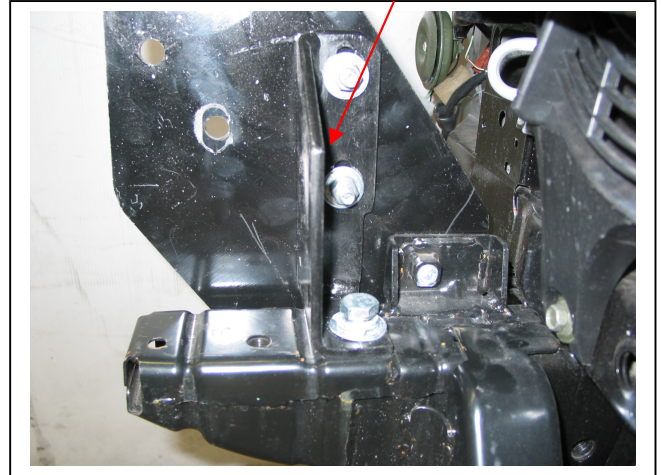

Figure 2
3. Attach two steel inner mounting brackets (supplied) to inside of steel mounts. Use 3/8 x 1 ½ bolts, nuts and washers (supplied). Then attach bracket to the top of the chassis using the M12 x 35 bolts/washers. **FINGER TIGHTEN ALL BOLTS/NUTS ONLY. See figure 2.**